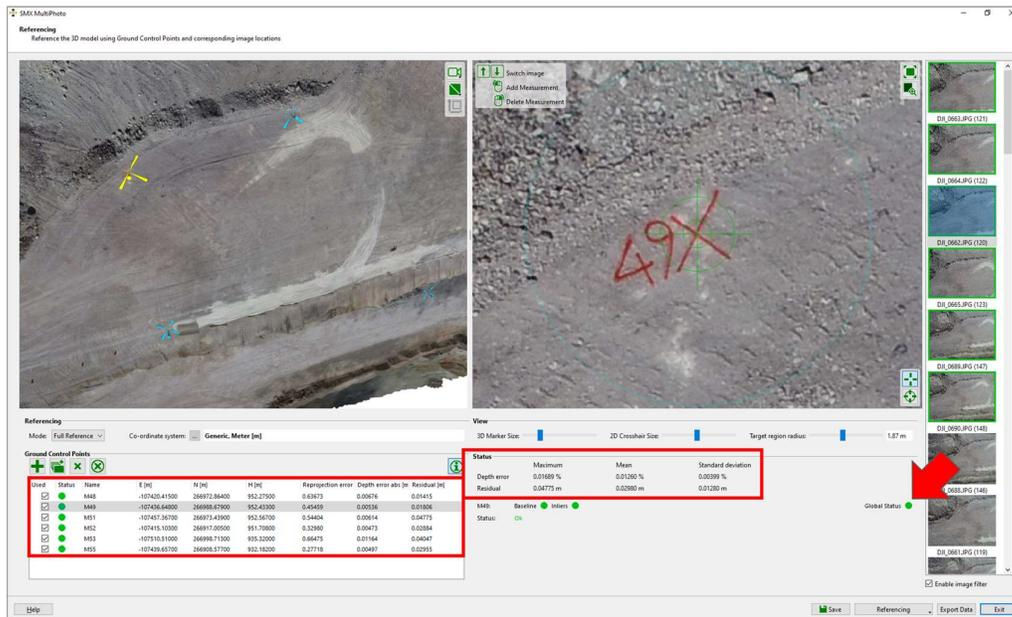

Figure 29: Valid *GCP* and error statistics
7. Check the error statistics and the *Status Information* (green status signals) and enable referencing by clicking the “Save”  button. See Figure 29.